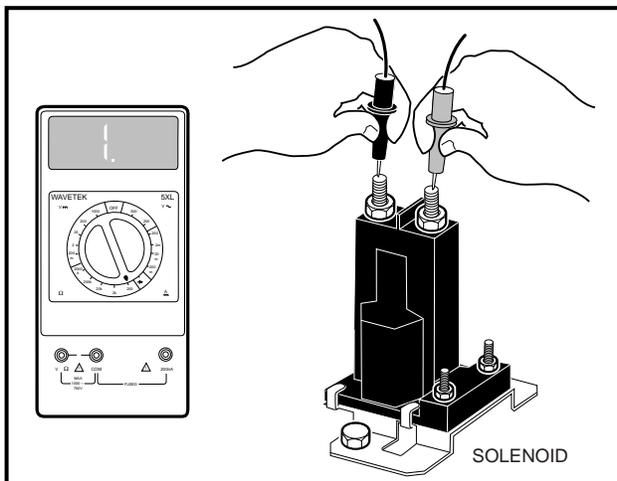

Figure 11-19 Solenoid Contacts - Power Off
2. Place the red (+) probe of a multimeter (set at Ω) on one of the large terminal posts on the solenoid, and place the black (-) probe on the other large terminal post on the solenoid. The reading should be **no continuity** (**Figure 11-19, Page 11-13**).